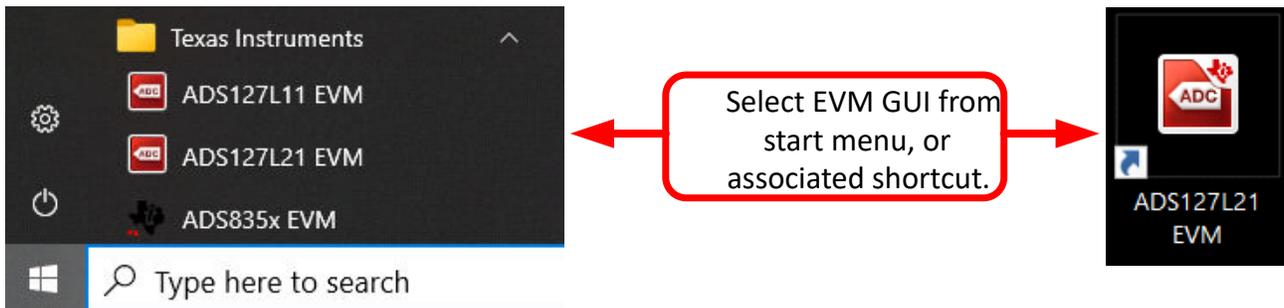

Figure 6-2. Launch the EVM GUI Software
3. Start the software GUI as shown in Figure 6-2. Notice that the LEDs blink slowly when the FPGA firmware is loaded on the PHI. This loading takes a few seconds, then the AVDD and DVDD power supplies turn on.